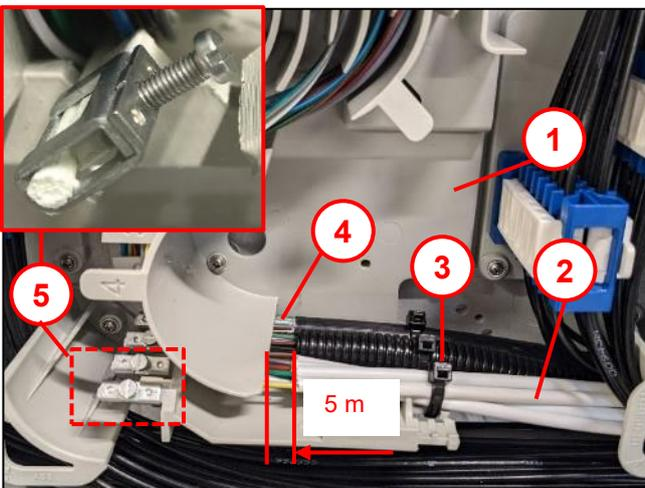

Fig. 26
Regarding fixing on the cable organiser on the door see Fig. 26.
- Strip the core of fibre cable (3) to 70 mm. **Note:** Alternative strain relief on the door side, see Fig. 26.
- Strip the bundled loose tube fibres (4) as per the specification.
1. strip the protective tubes (2).